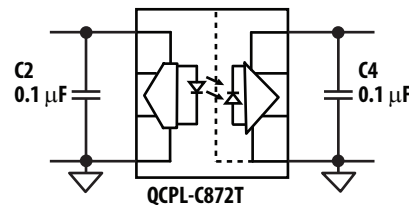

Fig 29. Bypass Capacitors C2, C4
0.1  $\mu\text{F}$  bypass capacitor must be connected as near as possible between  $V_{DD1}$  to  $GND1$  and  $V_{DD2}$  to  $GND2$  (Figure 29).